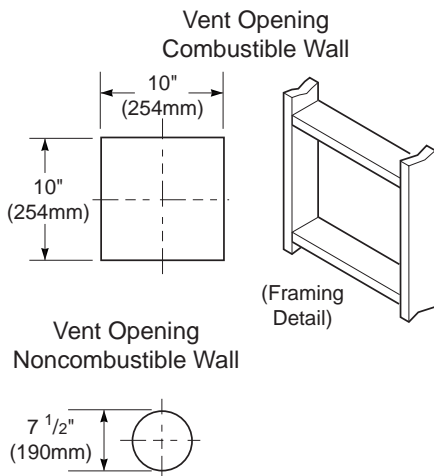
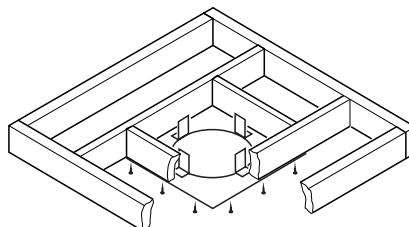

Figure 12 - Vent Opening Requirements
Figure 21 - Installing Firestop
- Attach vent pipe assembly to the fireplace. Set fireplace in front of its permanent location to insure minimum clearances. See page 10, Figure 16 for minimum clearances for vertical on rigid vent pipe, and page 10 Figure 17 on flexible vent pipe. Mark the wall for a 10" square hole (for noncombustible material such as masonry block or concrete, a 7 1/2" diameter hole is acceptable). See Figure 12. The center of the hole should line up with the center-line of the horizontal rigid vent pipe. Cut a 10"x10" (254mm x 254mm) square hole through combustible exterior wall (7 1/2" [190mm] diameter hole if noncombustible). Frame as necessary (see Figure 12).
1. Cut a 10" square hole in the ceiling using the locating hole as a center point. The opening should be framed to 10"x10" (254mm x 254mm) inside dimensions, as shown in Figure 12 on page 9 using framing lumber the same size as the ceiling joists. If the area above the ceiling is an insulated ceiling or a room, nail firestop from the top side. This prevents loose insulation from falling into the required clearance space. Otherwise, install firestop below the framed hole. The firestop should be installed with no less than three nails per side (see Figure 21).
3. Cut a hole in the roof using the locating hole as a center point. (Cover any exposed open vent pipes before cutting hole in roof.) The 10"x10" hole must be measured on the horizontal; actual length may be larger depending on the pitch of the roof. There must be a 1" clearance from the vent pipe to combustible materials. Frame the opening as shown in Figure 12 on page 9.